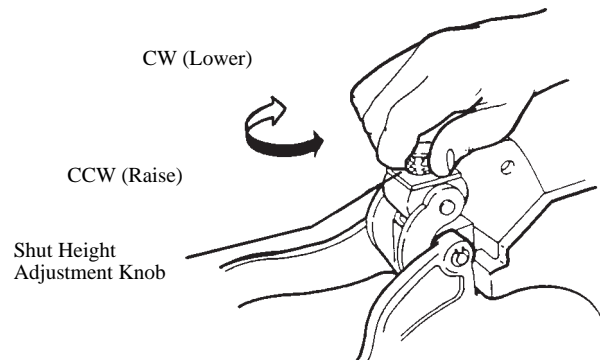

Figure 3b.
- With the **3316 and 3640 Presses**, turn the shut height adjustment knob until the bottom of the press shaft contacts the desired position on the shut height gauge. (See Figure 3b).